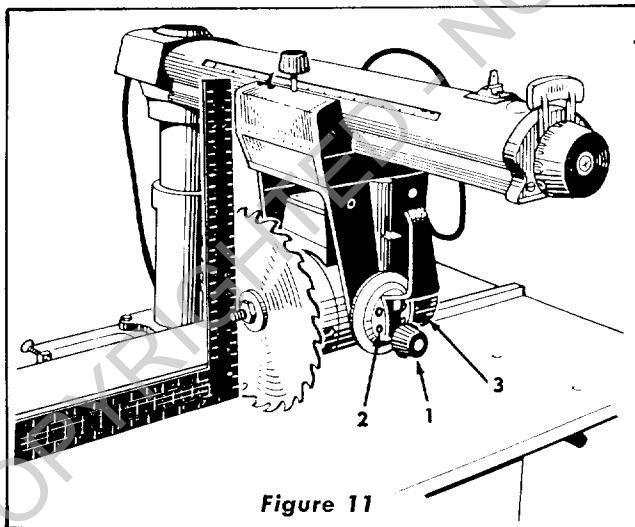

Figure 11
1. Place the edge of a square on table top and position as shown in Figure 11.
- a. Loosen bevel lock knob (Item 1, figure 11). Use 7/32" hex "L" wrench and slightly loosen four socket head screws (Item 2, figure 11).
- c. Retighten socket head screws (Item 2, figure 11) and bevel lock knob (Item 1, figure 11).
- e. Indicator (Item 3, figure 11) should read 0° on bevel index scale. If not, loosen screw and adjust indicator. Retighten screw.